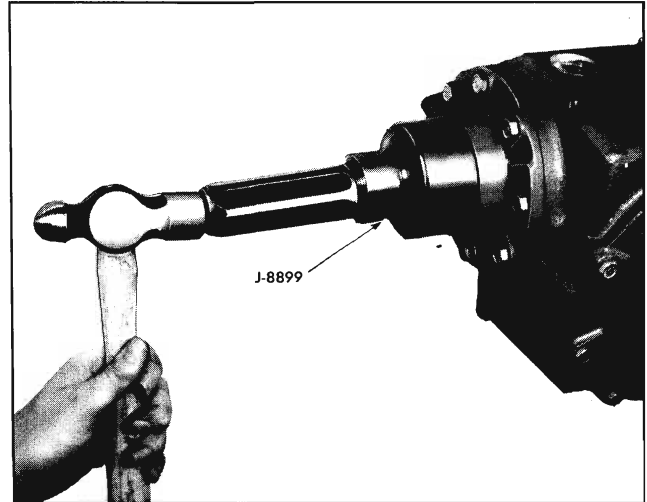

Fig. 4-51 Installing Rear Flange and Oil Seal
2. Apply uniform bead of sealer and install new rear flange and oil seal using J-8899 (Fig. 4-51).
3. Install new seal using suitable flat surface tool such as J-7137 with J-8092 handle (Fig. 4-51).